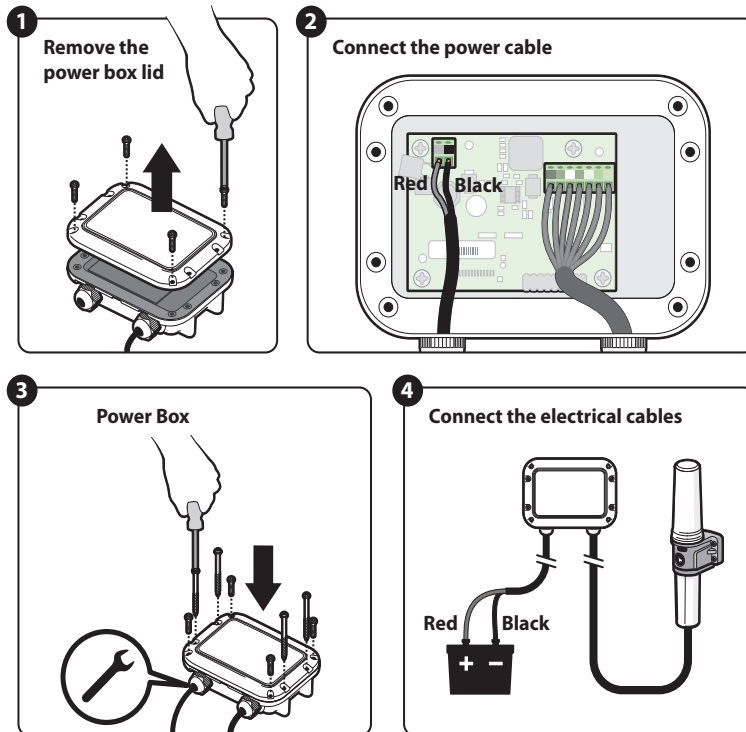

Figure 5 Installing the Power Box
- 1) Remove the screws at each corner of the power box (see diagram 1 in Figure 5).
- 5) Connect the +ve conductor to the Red screw terminal and -ve conductor to the Black screw terminal (see diagram 2 in Figure 5)
- 6) Carefully feed the cables back through their gland and refit the lid of the power box. Tighten the cable glands and refit the screws at each corner of the lid (see diagram 3 in Figure 5).
- 7) The power supply can now be attached to the external power source (see diagram 4 in Figure 5)